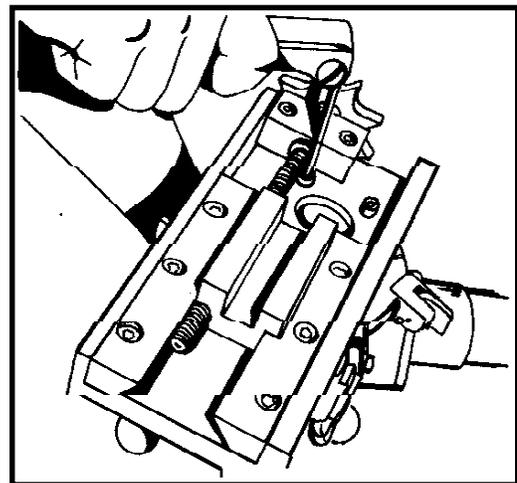

Figure 15
5. Install the Flange Facing Module. Make certain the felt washer (PN16-025-00) is installed in the rear of the module. Place it over the machine housing face and align the mounting holes. Tighten the four mounting Socket Head Screws with provided hex key set (Figure 15).